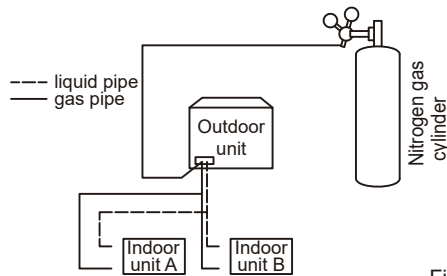

Figure 5.27
4. Use blind plugs to block all liquid (gas) side openings, except for the opening at the indoor unit which is furthest from the outdoor units ("Indoor unit A" in Figure 5.27).
8.Flush the other openings in the same manner, working in sequence from indoor unit A towards the outdoor units. Refer to Figure 5.27.